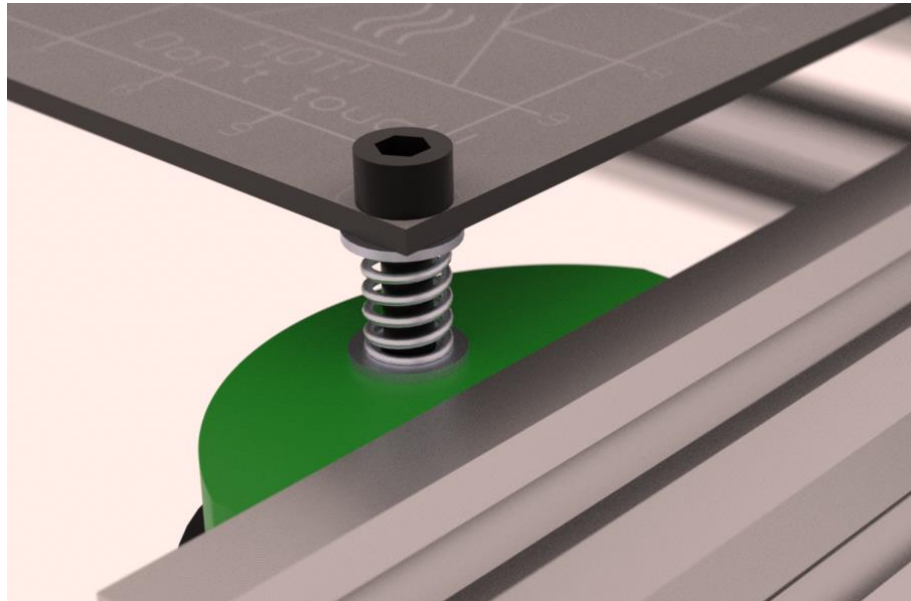

Figure 31: Heated Bed PCB Installation
- Install the heated bed PCB as shown in Figure 31.